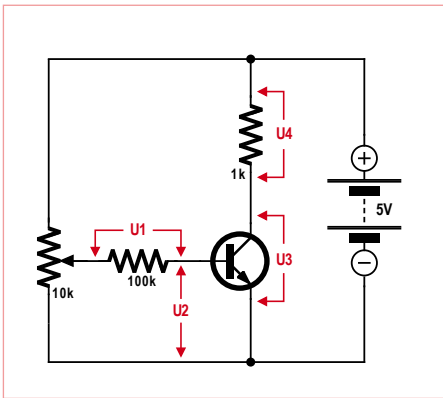

Figure 1. Measurement setup.
**Figure 1** shows our measurement setup. The potentiometer connected to the circuit input allows the input voltage to be adjusted in small increments over the range from zero to 5 V. For each setting, you should measure and record the four voltages  $U_1$ – $U_4$ . From this you can derive the currents and the amplification factor  $A$ .